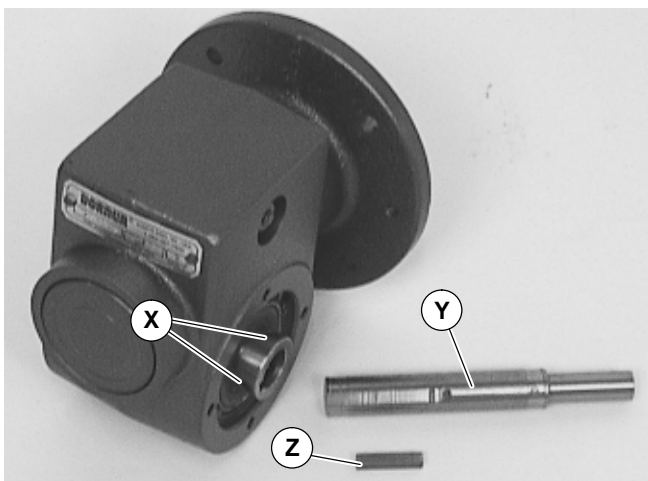

Figure 15
7. Remove two (2) screws (U) and detach output shaft cover (V).
8. Remove gear reducer output shaft key (W).
9. Loosen six (6) set screws (X of Figure 15). Remove drive shaft (Y) and key (Z).
11. Replace the original shaft (Y Figure 15) and key (Z) into new gear reducer. Tighten set screws to 3 Nm.